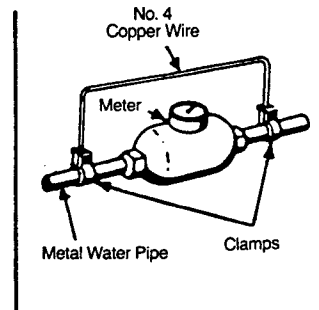

FIGURE 3
*Grounded cold water pipe must have metal continuity to electrical ground and not be interrupted by plastic, rubber or other electrical insulating connectors such as hoses, fittings, washers or gaskets (including water meter or pump). Any electrically insulating connector should be jumped as shown in FIG. 3 with a length of No. 4 copper wire securely clamped to bare metal at both ends.